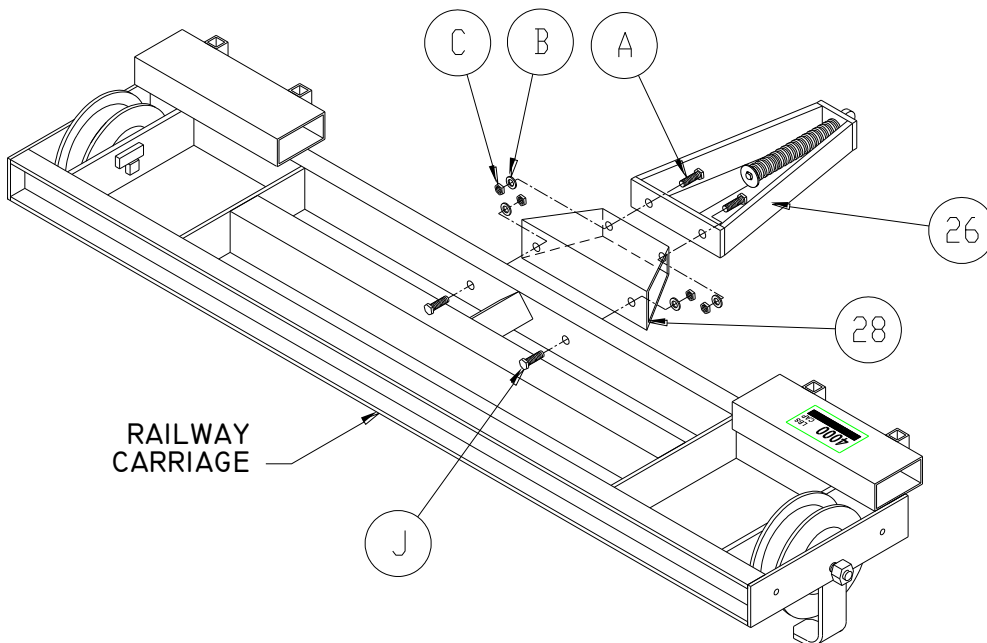

Figure 3-7.
1. Refer to Figure 3-7. Attach spring frames to railway carriage trucks with hardware supplied.